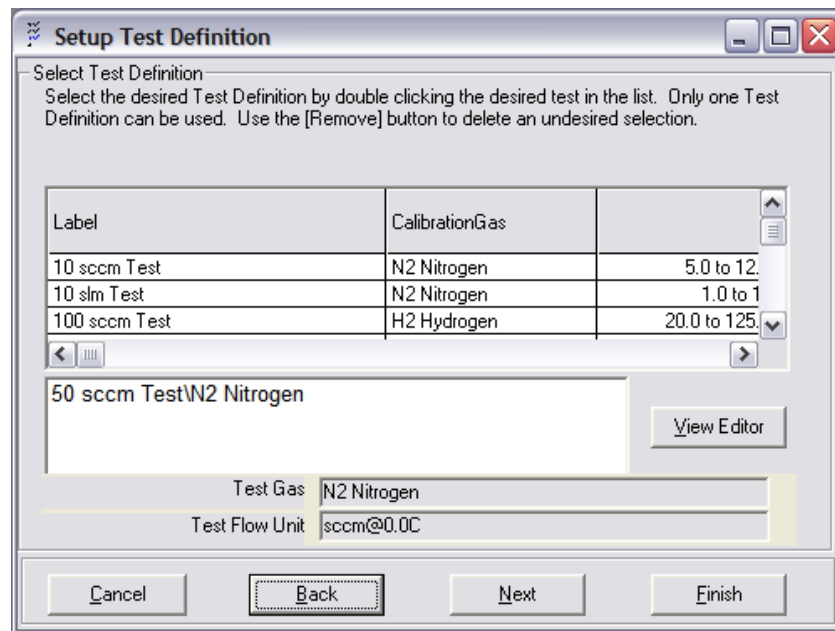

Figure 98. Run Test - Select Test Definition Window
- 2 Locate and select the Test Definition to be run (see Figure 98), then select “Next”. If necessary, the “View Editor” button can be used to view details of the test and verify it is the correct one intended to be run.